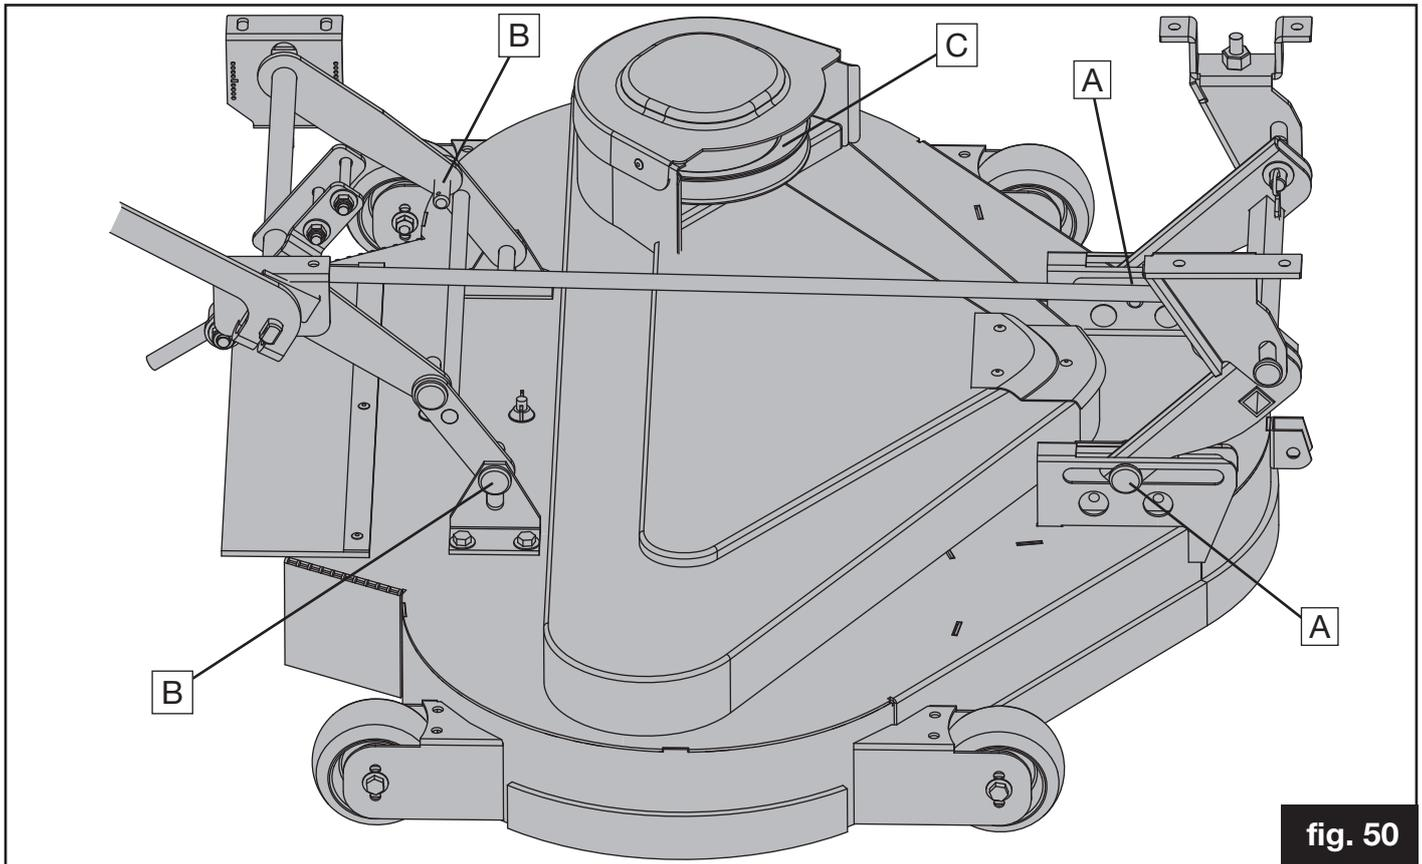
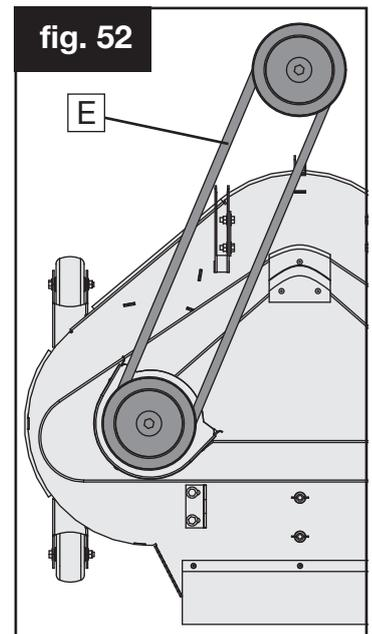
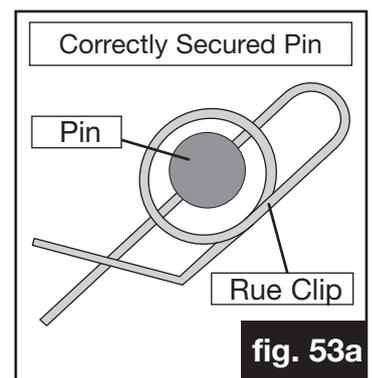

fig. 50
fig. 52
fig. 53a
Removal of cutter deck (fig. 50, 51, 52, 53 & 53a)
3. Remove the belt (fig. 52 - belt E) from the pulley (fig. 50 - pulley marked C).
4. Remove the 2 securing pins from the front of the deck (fig. 50 - pins marked A) by undoing the Rue Clips (Fig. 53a installed correctly) and removing them.
5. Repeat for the 2 securing pins at the back of the deck (Fig. 50 - pins marked B).
IMPORTANT! DO NOT ATTEMPT TO INSTALL THE DECK TENSION ROD UNLESS RUE CLIPS AND PINS ARE FIRST INSTALLED ON BOTH FRONT AND REAR DECK BRACKETS (fig. 50, 53 & 53a).